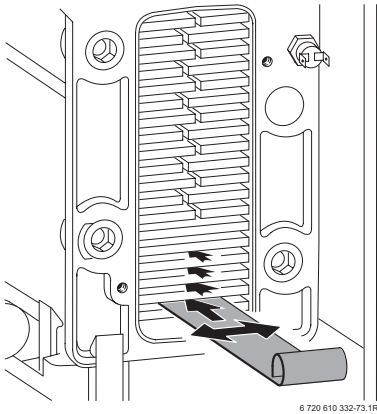

Fig. 52
- Loosen any deposits in the heat exchanger from top to bottom using the cleaning blade. Refer to fig. 52.